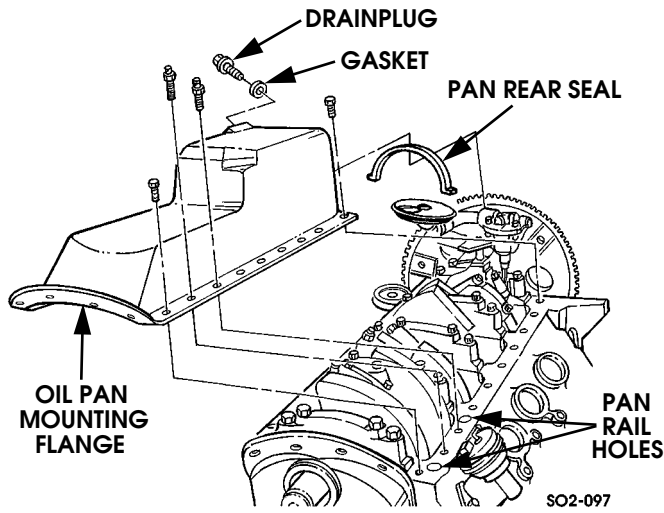

Figure 2-187: Oil Pan and Seal Installation
6. Apply silicone sealer, such as Permatex High Temp, Ultra Blue, or Ultra Black to surfaces of oil pan mounting flange surfaces (Figure 2-187).
7. Apply sealer to pan rear seal (Figure 2-187). Then press seal into place on oil pan. Coat seal ends with sealer as well.
8. Apply silicone sealer around two holes in right side panel rail on block (Figure 2-187).